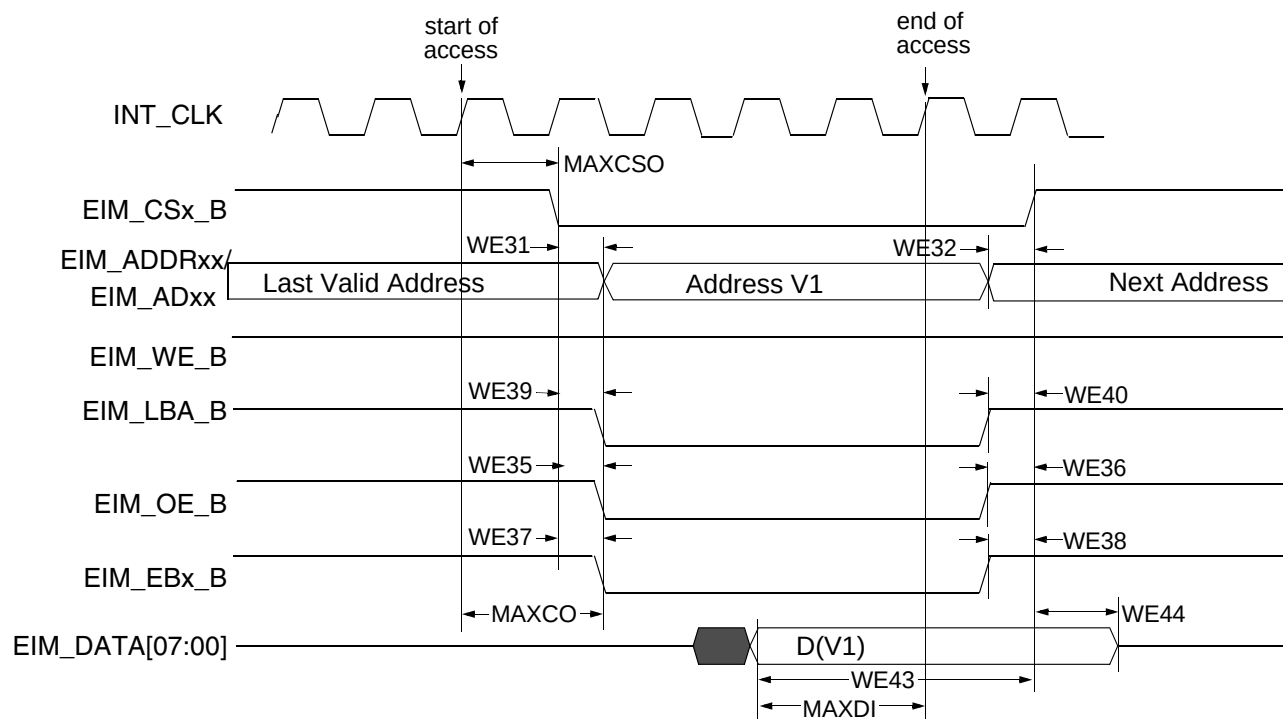
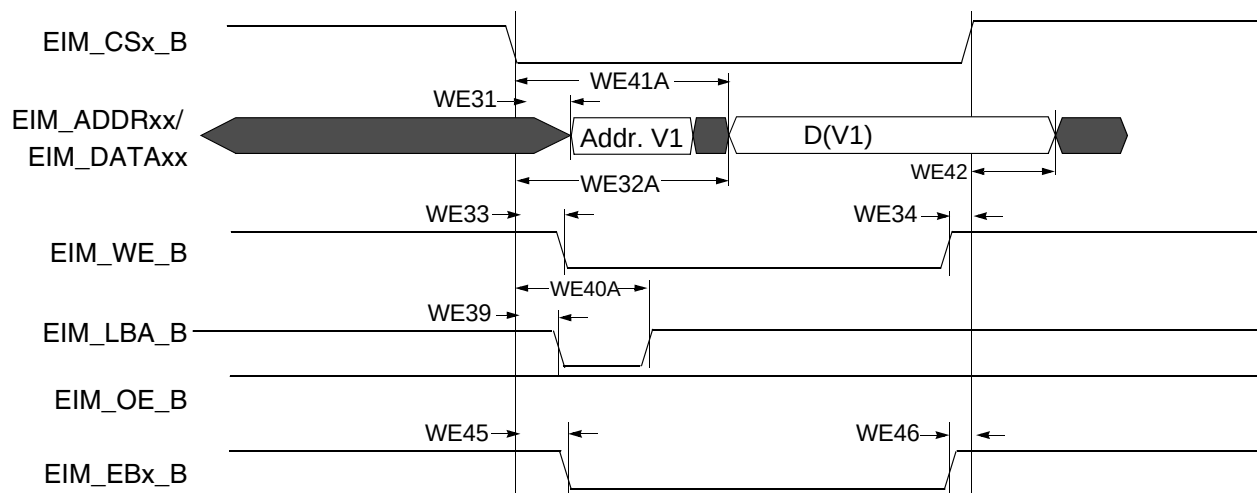
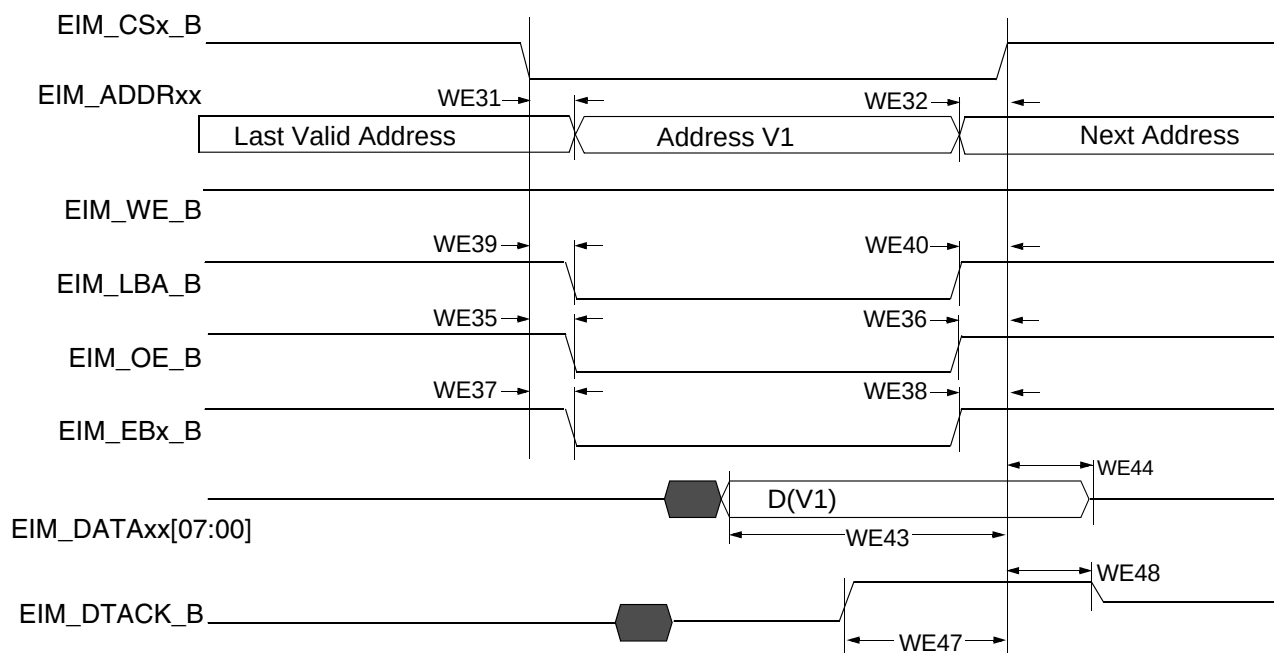

Figure 18. Asynchronous Memory Read Access (RWSC = 5)
Figure 21. Asynchronous A/D Muxed Write Access
Figure 22. DTACK Mode Read Access (DAP=0)
Figure 18 through Figure 22 and Table 41 provide timing parameters relative to the chip select (CS) state for asynchronous and DTACK EIM accesses with corresponding EIM bit fields and the timing parameters mentioned above.
Asynchronous read & write access length in cycles may vary from what is shown in Figure 18 through Figure 21 as RWSC, OEN & CSN is configured differently. See the i.MX 6Dual/6Quad reference manual (IMX6DQRM) for the EIM programming model.